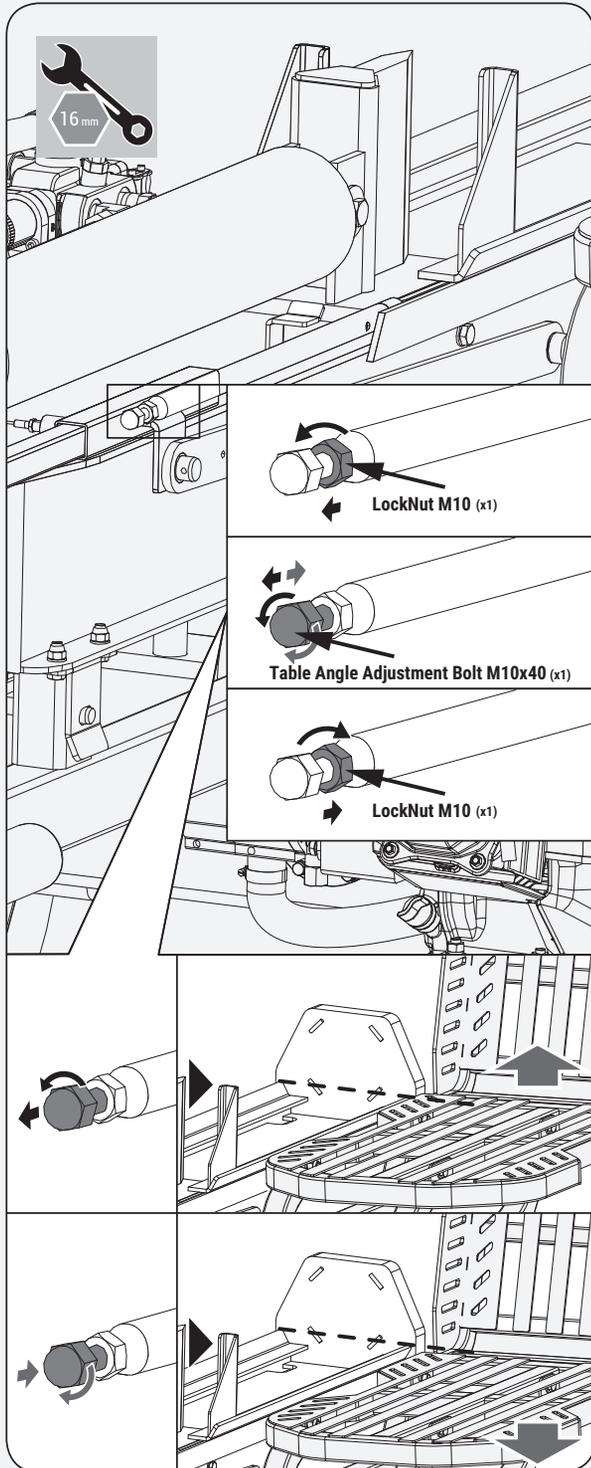

Figure 23
1. Loosen the lock nut, adjust the table angle adjustment bolt backward to increase the length of the ejector rod, and the table tilts upward; On the contrary, adjust the table angle adjustment bolt forward to shorten the length of the ejector rod, and the table will tilt down. When the height of the table and beam is aligned, lock the nut tightly. (See **Figure 23.**)